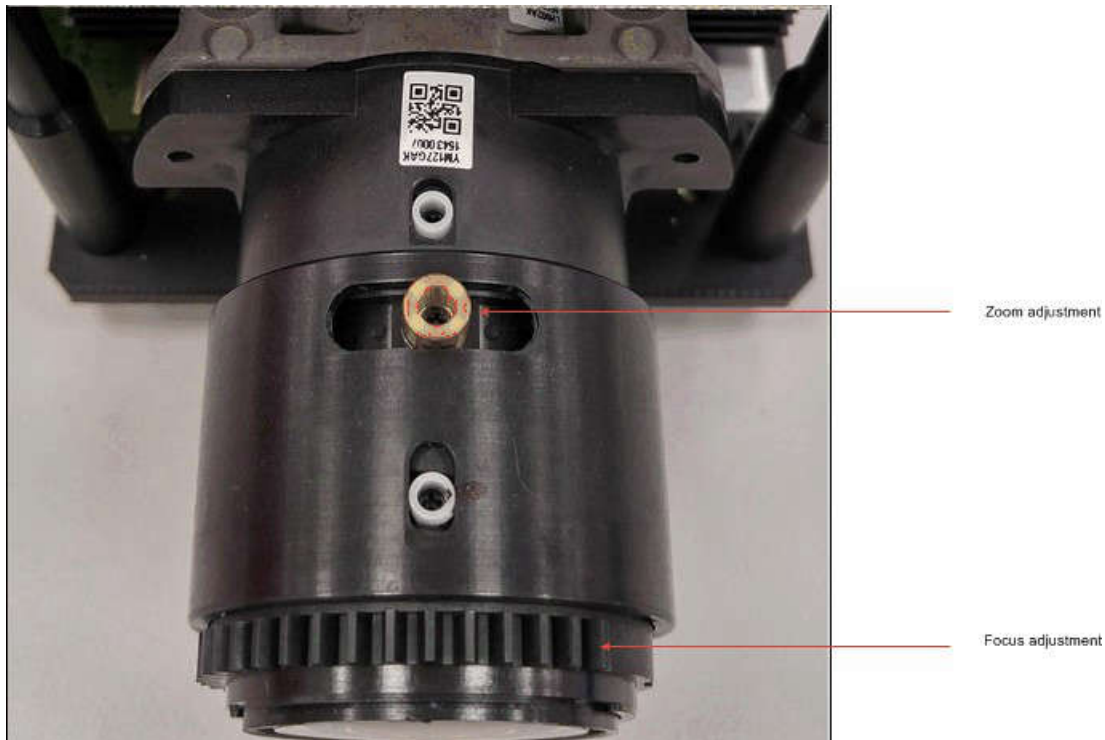

Figure 6-1. Optical Module With Focus and Zoom Adjustment
5. The focus and zoom of the image can be adjusted on the optical module (Figure 6-1).